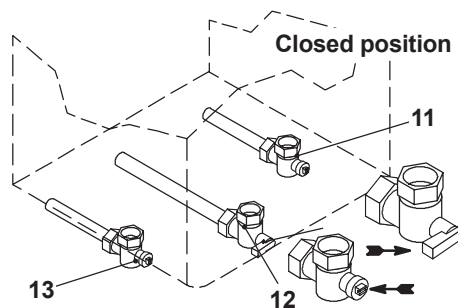

Fig. 9.3
- Close the c.h. isolating valves (13 and 11 in Fig. 9.3).